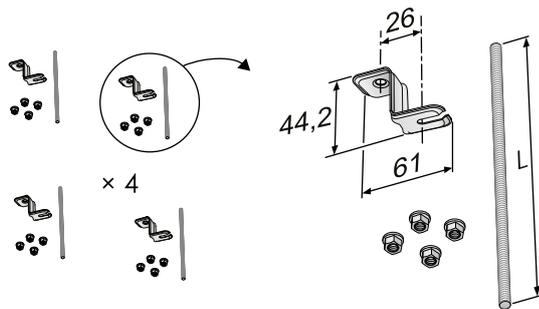

Figure 18. Assembly piece SYST MS M8-1, ceiling mount and threaded rod.
- D1 = Assembly piece (see Figure 18)